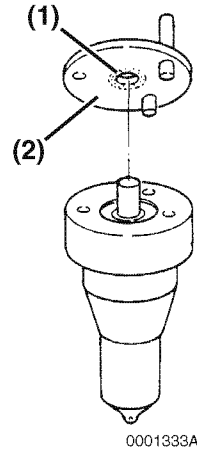

Figure 6-87
6. Inspect the sealing surfaces (**Figure 6-87, (2)**) between the valve stop spacer and nozzle body for nicks or scratches. Check the contact area between the valve stop spacer and the nozzle valve (**Figure 6-87, (1)**) for scoring or pitting. Use a magnifying glass to inspect the area.